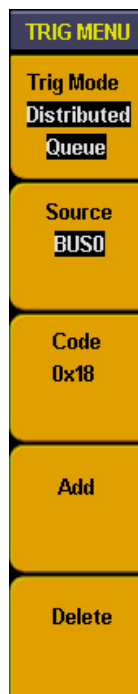

Fig. 88: Distributed queue trigger menu
5. **Distributed queue trigger**: make BUS as trigger source and dis-continuous setting data in BUS as trigger condition to generate trigger and also can set 8 data at the same time. Distributed queue trigger menu refer as Fig.88